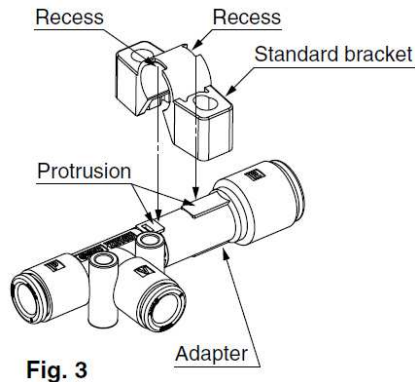

Fig. 3
- Mounting of the standard bracket (ZH05 to 15D· A) and adjustment of the vacuum (V) port
(1) Align the recess of the standard bracket and the protrusion of the adapter. Push the bracket from the top onto the adapter (Fig. 3).